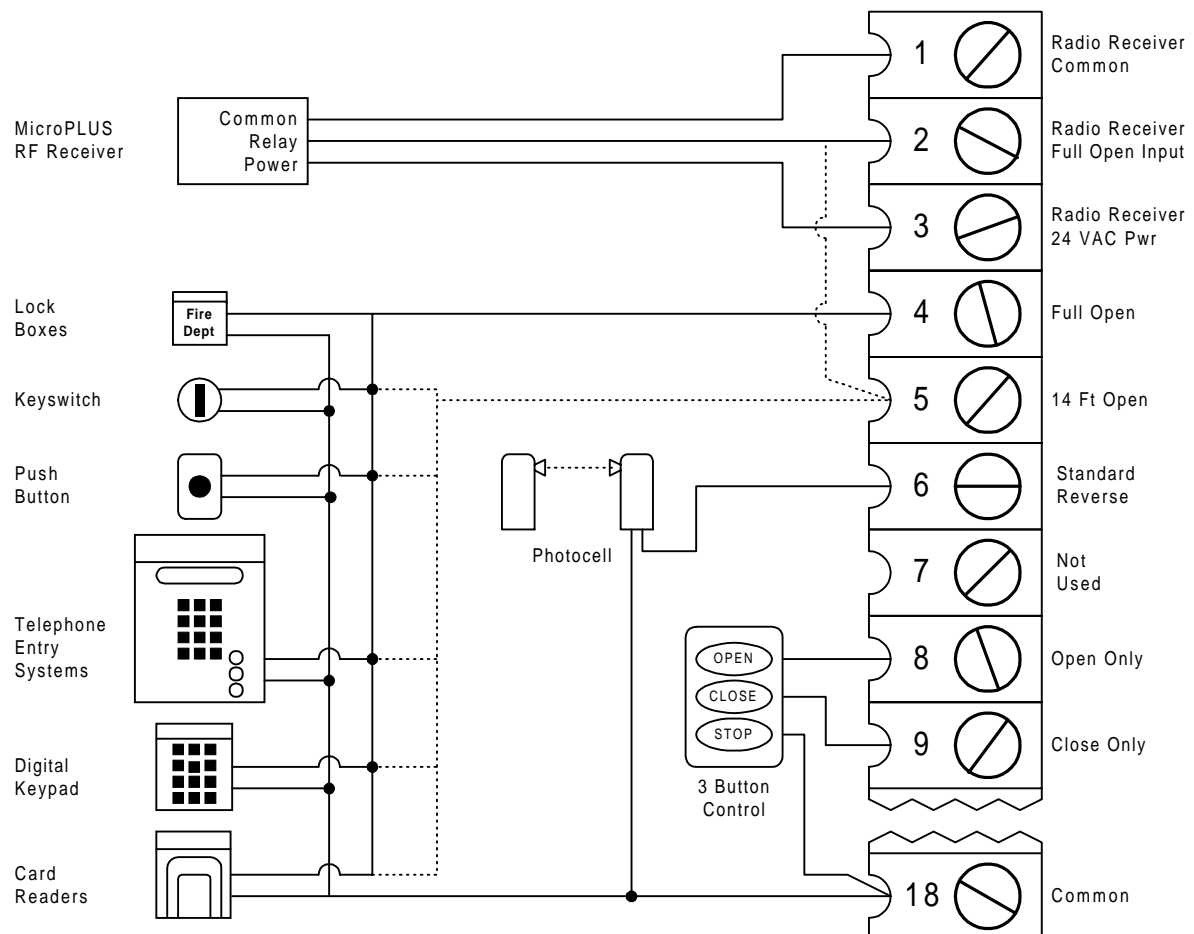

Figure 25
- Connect optional control devices to the operator terminal strip as shown in figure 25. Be sure that all electrical connections are made in accordance with local electrical codes. Use 18 AWG wire for all low voltage wiring, maximum distance 3000 feet. Use a low voltage surge suppresser, DoorKing P/N 1878-010 if low voltage wire runs exceed 1000 feet. All inputs to the terminal strip must be NORMALLY OPEN.